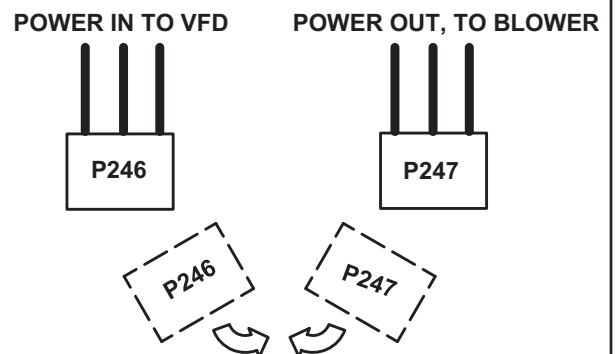

FIGURE 30
- 4 - Connect P246 to P247. See FIGURE 30.